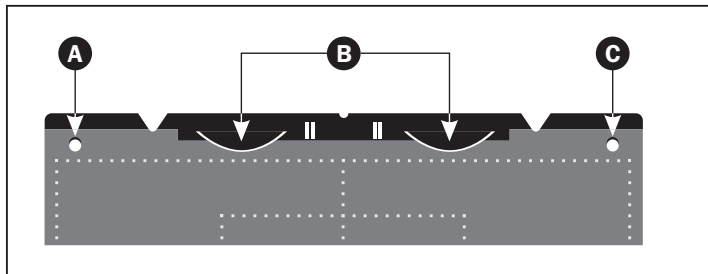

Figure 9: Reflective holder, top
- For the reflective holder (**L**), note the four metal pegs (the top two are shown as **A** and **C** in Figure 9 below); make sure that the clear plastic sheet is pressed all the way down over all four pegs. Note also the two curved tabs at the top of the holder (**B** in the figure below); the clear sheet must slip under each of these tabs, as shown.